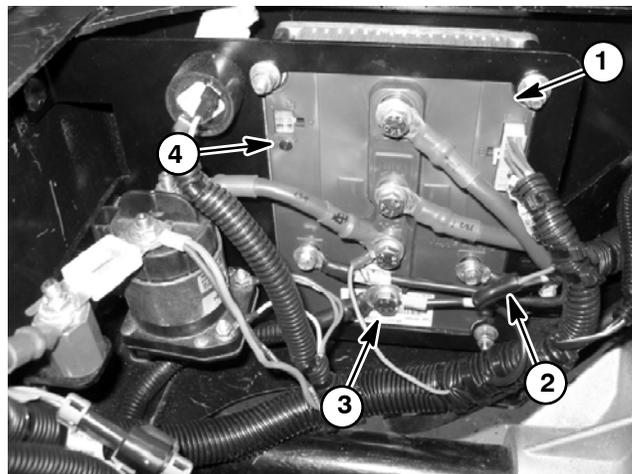

Figure 16
4. Using a jumper wire, connect gray controller lead to ground post (B-) on controller (Fig. 16).
5. Turn on/off switch ON. The alarm should sound and the controller LED should flash six (6) times.